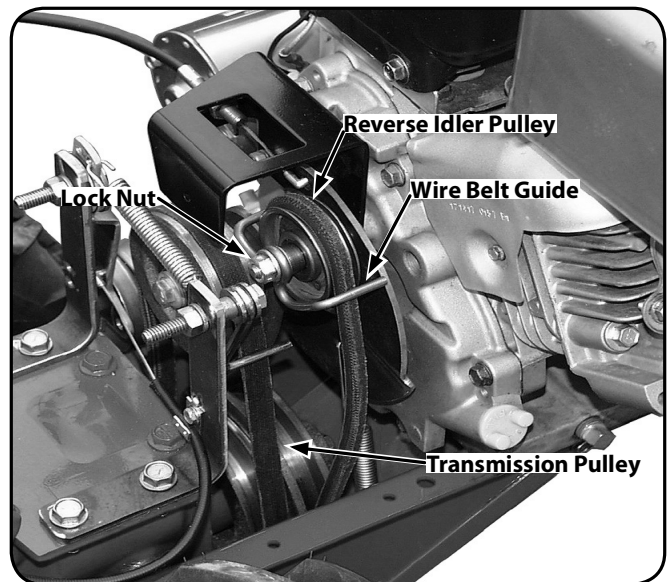

Figure 7-6
- Pull the reverse clutch belt downward and slip it off the transmission pulley. See Fig. 7-6.